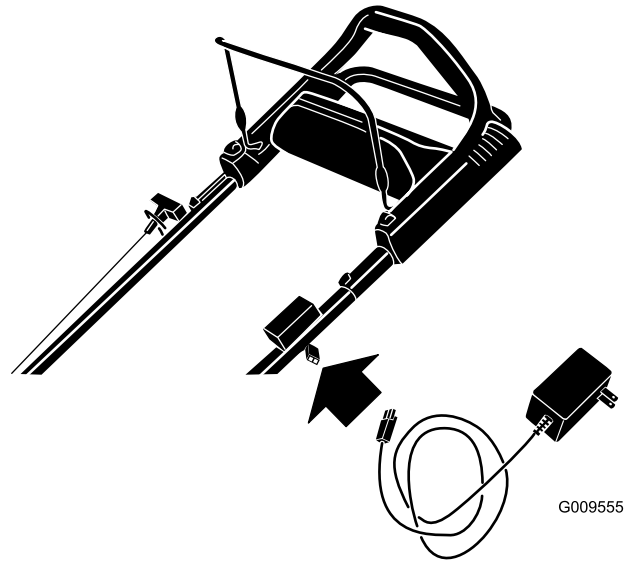

Figure 33
1. Connect the charger to the machine wire harness located below the ignition key (Figure 33).